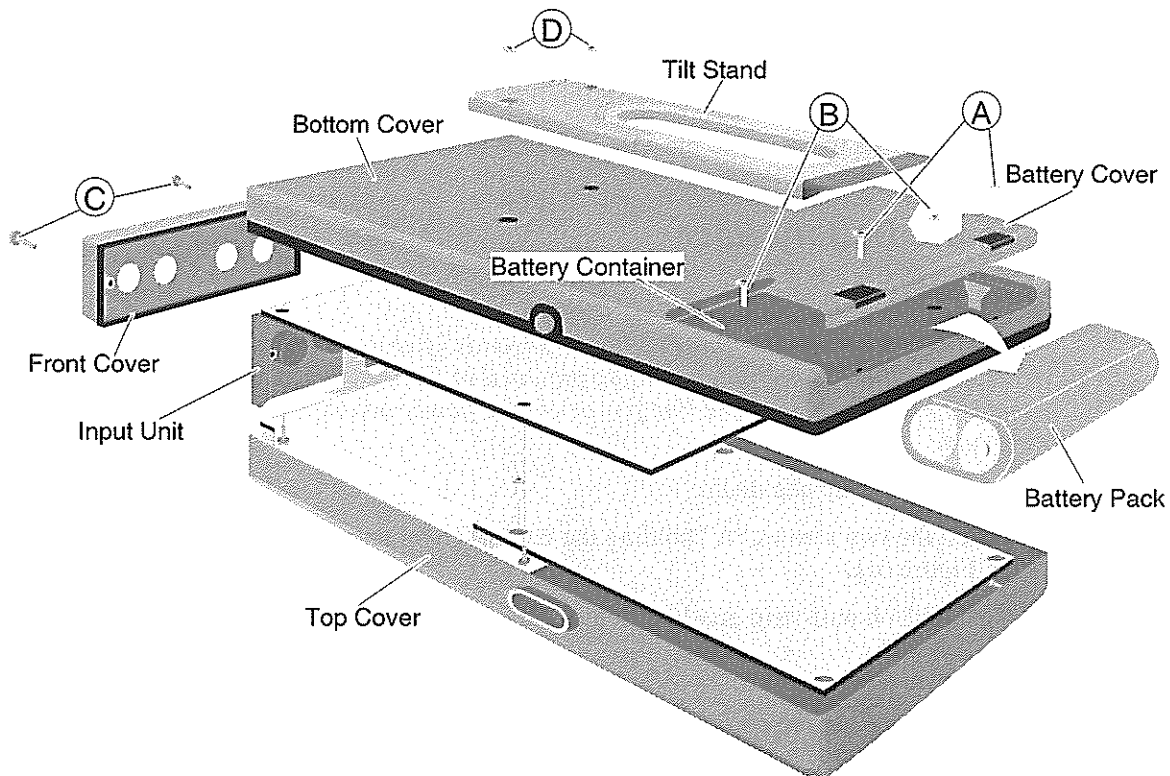

Figure 6-1. Opening of the MultiFunction Counter
2. Loosen the two screws "A" holding the battery cover and remove it from the MFC. See Figure 6-1.
4. Loosen the two screws "B" at the bottom of the battery container. See Figure 6-1. Lift the bottom cover from the top cover and flip over the bottom cover.
1. Loosen the screws "D" holding the tilt stand to the MFC. See Figure 6-1.